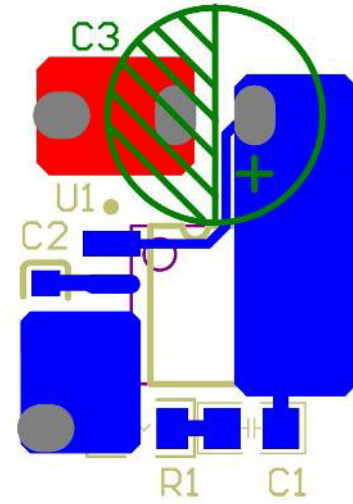

Fig.3
PCB design has a significant impact on the performance of synchronous rectification. It is recommended to refer to Figure 2 and Figure 3 when designing synchronous rectification circuit.
4. Figure 3 shows a layout example using a synchronous rectifier switch, a transformer and output capacitor. R1 and C1 are the RC snubber network for the SR MOSFET, make the RC loop as small as possible.